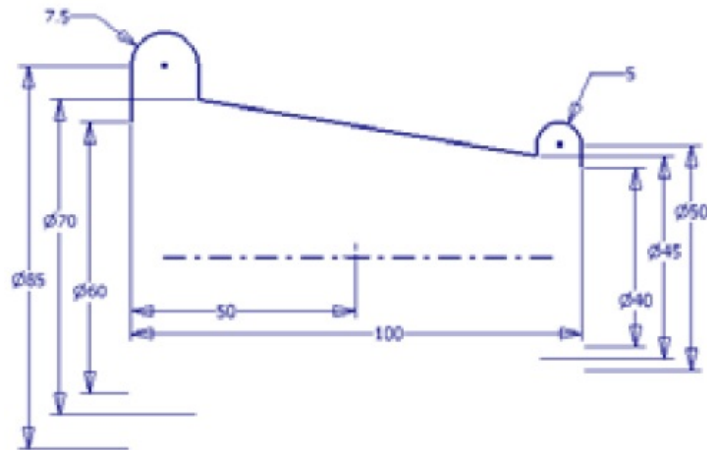

Figure 14-52 Fully constrained sketch for the base surface
- a. Open a new part file and then create the sketch shown in Figure 14-52 on the default XY plane.
1. Open a new metric standard part file and then draw the sketch on the XY plane, as shown in Figure 14-52. Constrain the sketch fully by specifying dimensions and geometric constraints.